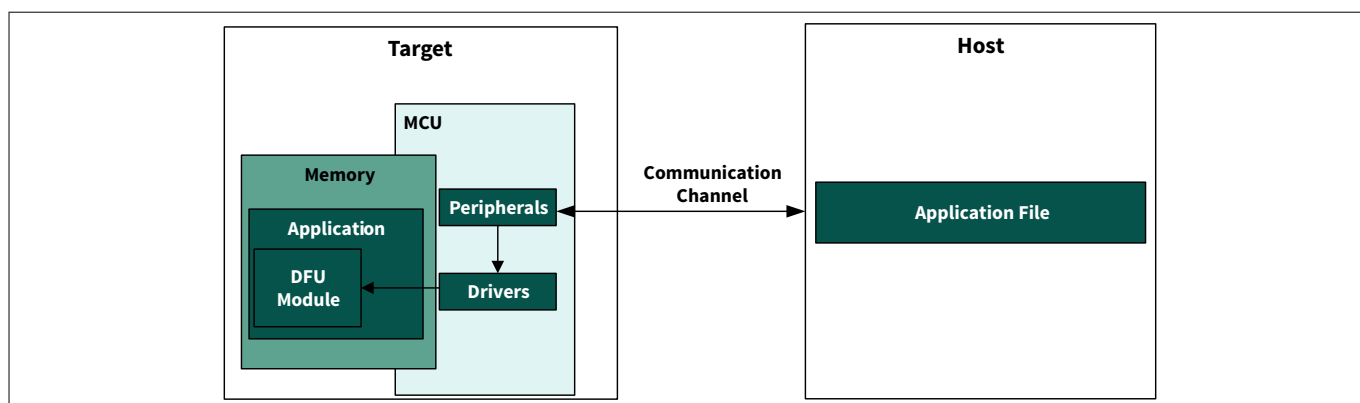

Figure 4 Generic DFU system
The transport layer of the MW configures the Hardware Abstraction Layer (HAL)/Peripheral Driver Library (PDL) drivers to set up the target for communication with the host. It uses the simple Host command/response protocol for communication regardless of the channel used for communication. The DFU MW provides a medium to receive the commands from the communication channel and responds to each command by sending one or more bytes to the communication channel. See Figure 4.
- The tool is available under the ModusToolbox™ installation path of </ModusToolbox/tools_<version>/dfuh-tool/>. This is an example of the “host” shown in Figure 4. For more information, see DFU Host Tool. Host tool is also released in source and available at the ModusToolbox™ installation path